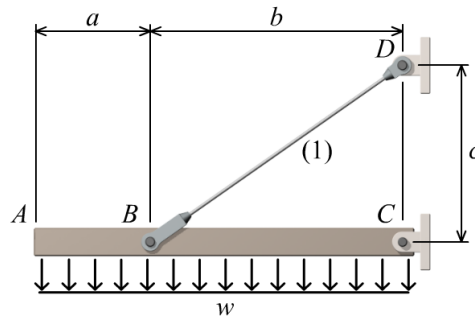

FIGURE P1.11
P1.11 The rigid beam ABC shown in Figure P1.11 is supported by a pin connection at C and by steel rod (1), which has a diameter of 10 mm. If the normal stress in rod (1) must not exceed 225 MPa, what is the maximum uniformly distributed load w that may be applied to beam ABC ? Use dimensions of $a = 340$ mm, $b = 760$ mm, and $c = 550$ mm.